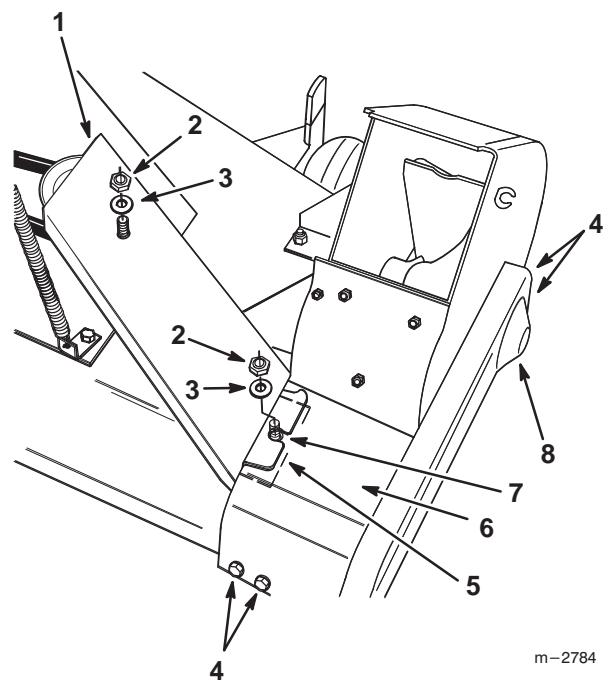

Figure 11
8. Install the pulley shield to the blower and mower with four (4) 5/16"-18 x 1/2" (13 mm) thread-forming bolts (Fig. 11).
9. Install a 5/16"-18 x 3/4" carriage bolt through the 1" x 2-1/2" (25 x 64 mm) flat plate. Install a flat washer and locknut onto the 5/16"-18 x 3/4" (19 mm) carriage bolt. Leave the locknut finger-tight (Fig 11).
10. Position the 1" x 2-1/2" (25 x 64 mm) flat plate underneath the shield with the flat washer and locknut above the shield (Fig 11).
11. Slide the slotted end of the belt cover onto the carriage bolt in the flat plate between the top of the shield and the flat washer (Fig 11).
12. Position the hole in the other end of the belt cover over the stud on the shield bracket. Loosely install the washer and locknut (Fig 11).
13. Push the belt cover as far toward the pulley shield as possible, then tighten the locknuts (Fig 11).